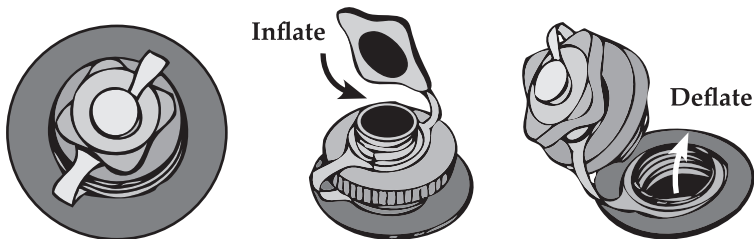

Figure 1. Inflate/Deflate Boston Valve
Advanced Elements Island Voyage™ 2 kayak uses standard Boston valves. This common valve has great function and durability and is compatible with most standard pumps. The following illustrations in *Figure 1* show how to operate your valves.
1. Locate Chamber 1. Make sure valve body is screwed in tightly. **See Figure 1.** Remove small cap and use the appropriate pump nozzle to mate with the valve. Inflate Chamber 1 until firm to the touch (2.0 psi **ONLY**).
2. Proceed to Chamber 2. Make sure valve body is screwed in tightly. **See Figure 1.** Remove small cap and use the appropriate pump nozzle to mate with the valve. Inflate Chamber 2 until firm to the touch (2.0 psi **ONLY**). Close caps on chambers 1 and 2 tightly.
3. Locate chamber 3 "floor." Make sure valve body is screwed in tightly. Remove small cap (*See Figure 1*) and use appropriate pump nozzle. Inflate chamber until firm (1.0 psi **ONLY**). **Do not over inflate!**
1. Unscrew the valve bodies from chambers 1, 2, and 3 to allow the air to rush out. (See Figure 1)